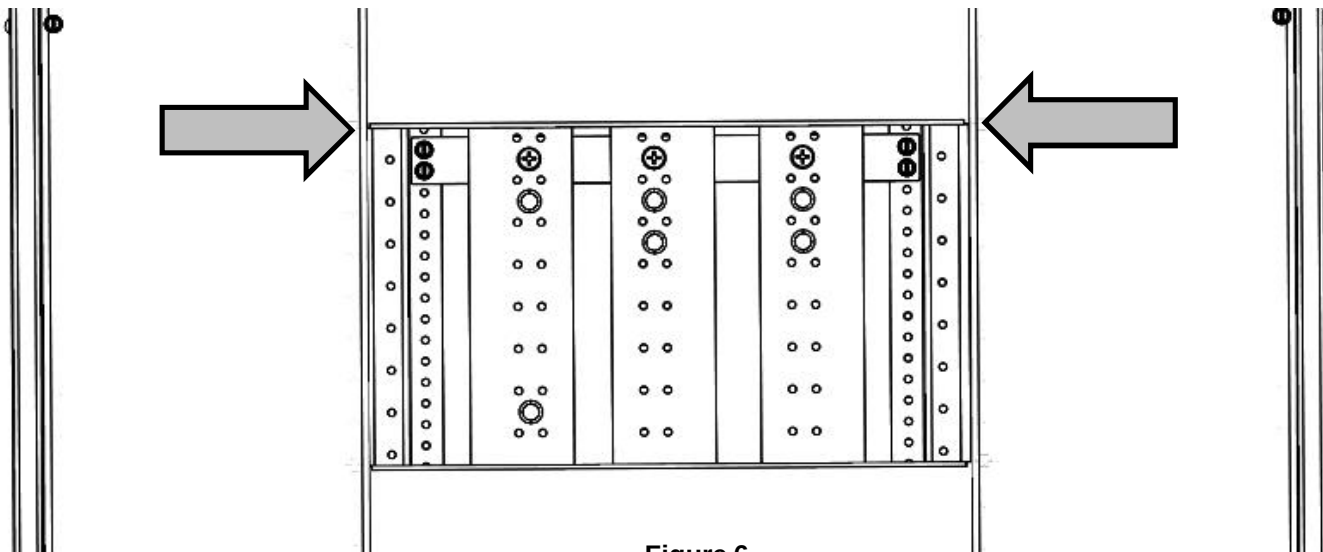

Figure 6
6. Mark location of the switch at top of the opening on both of the mounting (Z) rails see Fig 6 & 6a.